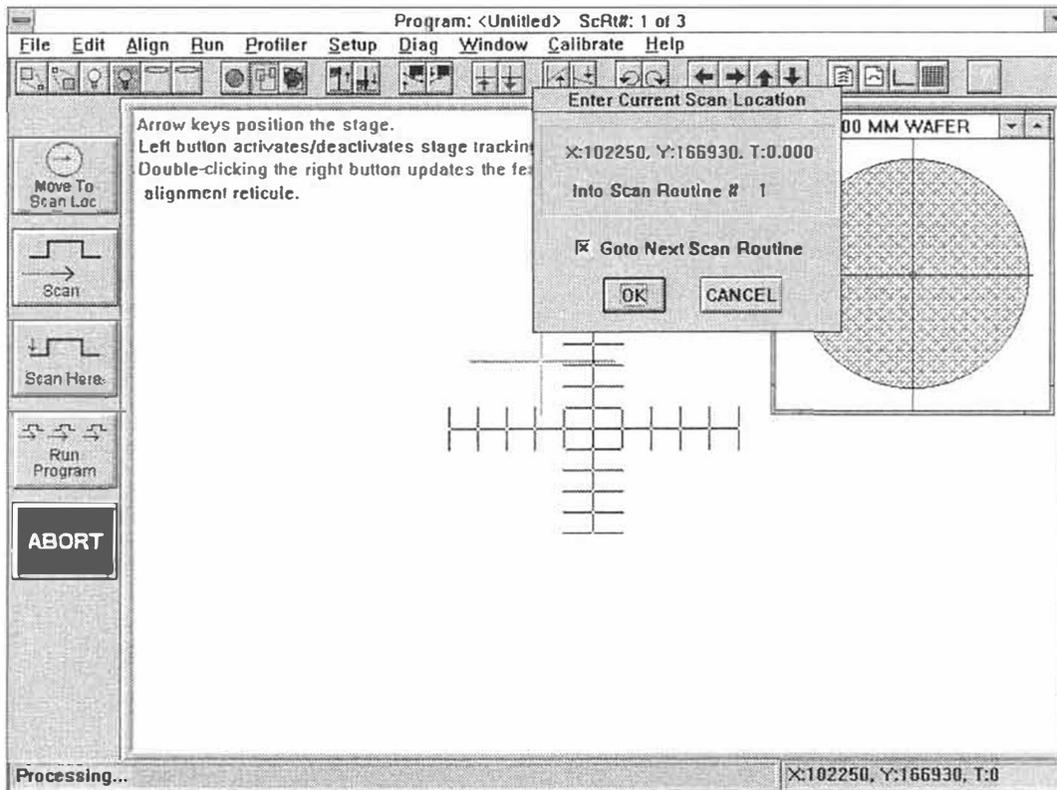

Figure 5-5. Stylus Position for Scan Routine #1
1. Click-on the video image of the sample positioning screen. The stage will now track the motion of the mouse or trackball. When the calibration standard is properly positioned, as shown in Figure 5-5, click-on the mouse or trackball a second time to deactivate the stage.